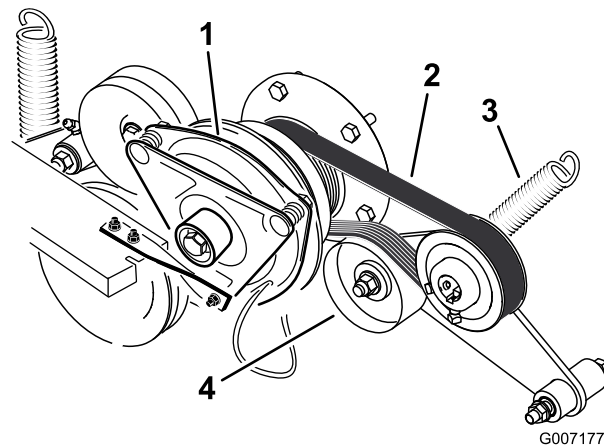

Figure 65
- 3. Remove the spring from the idler arm (Figure 65).
- 4. Install the new belt around the engine and hydro pump pulley (Figure 65).
- 6. Install the spring to the idler arm (Figure 65).